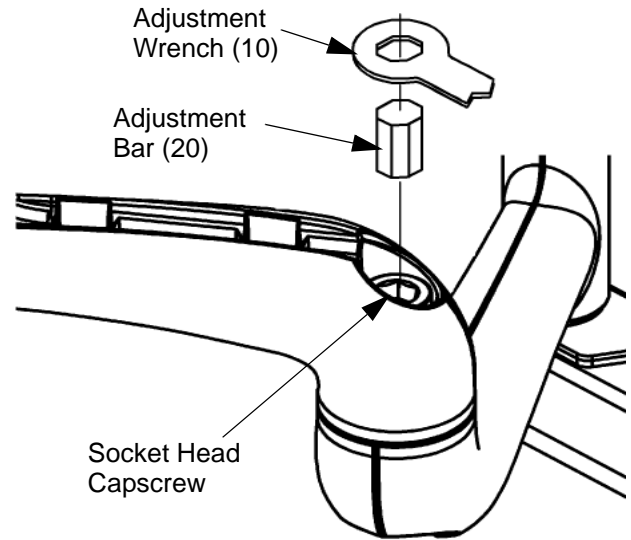

Figure 2: Pivot Arm Tension Adjustment
1. Locate the adjustment bar (20) and adjustment wrench (10).
2. Place adjustment bar (20) into socket head cap screw located at swing arm pivot point. (see figure 2)